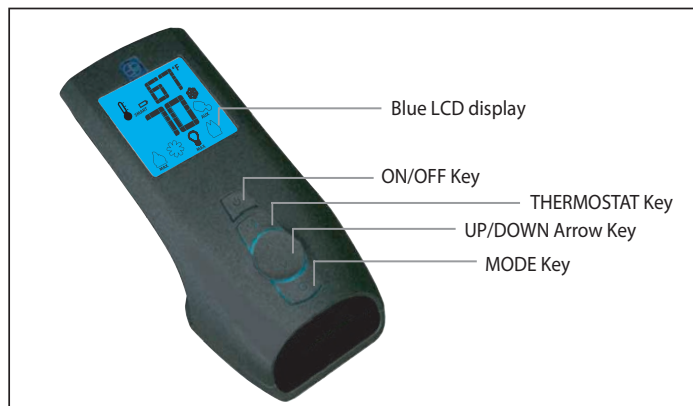
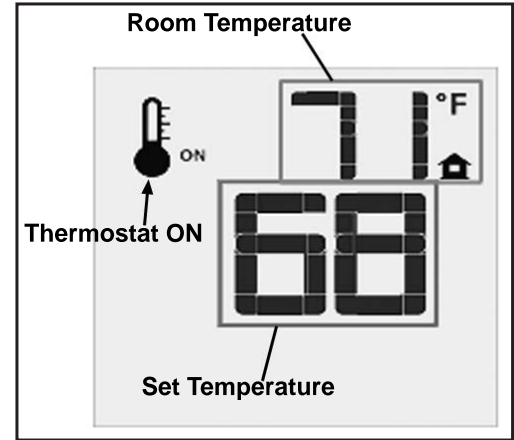
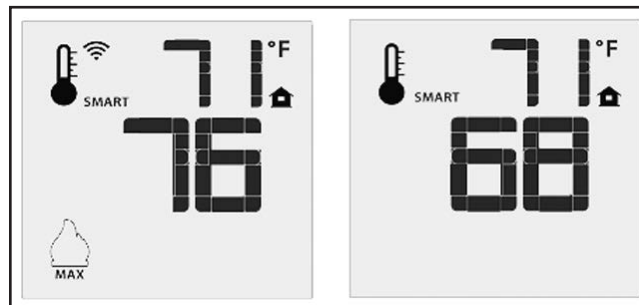
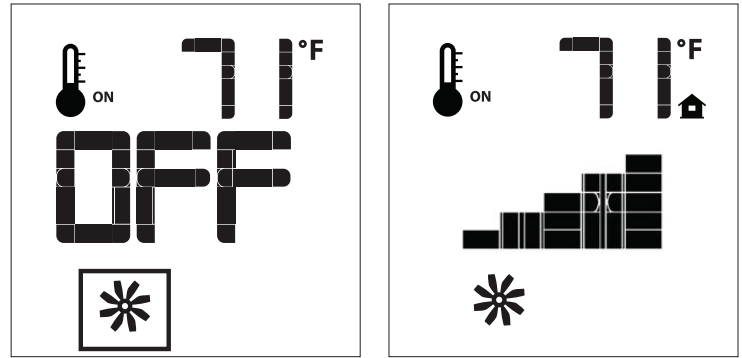

Figure 5: Proflame 2 Transmitter.
Figure 10: Remote Control Displays Set Temperature.
Figure 11: Remote Control's Smart Flame Function.
Figure 13: Fan Control
The Proflame 2 Transmitter is a black remote control with a blue backlit lcd display. It uses a streamline design with a simple button layout and informative lcd readout (Figure 6). The Transmitter is powered by three (3) AAA type batteries. A Mode Key is provided to Index between the features and a Thermostat Key is used to turn on/off or index through Thermostat functions (Figure 5 & 6)
Press the ON/OFF Key on the Transmitter. The Transmitter LCD display will only show the room temperature and Icon (see Figure 10). A single “beep” from the IFC confirms reception of the command and both the pilot light (if the unit is not set to continuous pilot) and main burner will turn off.
The Remote Control can operate as a room thermostat. The thermostat can be set to a desired temperature to control the comfort level in a room. To activate this function, press the Thermostat Key (see Figure 5). The LCD display on the Transmitter will change to show that the room thermostat is “ON” and the set temperature is now displayed (see Figure 10). To adjust the set temperature, press the Up or Down Arrow Keys until the desired set temperature is displayed on the LCD screen of the Transmitter.
The Smart Thermostat function adjusts the flame height in accordance to the difference between the set point temperature and the actual room temperatures. As the room temperature gets closer to the set point the Smart Function will modulate the flame down. To activate this function, press the Thermostat Key (Figure 5) until the word “SMART” appears to the right of the temperature bulb graphic (Figure 11). To adjust the set temperature, press the Up or Down Arrow Keys until the desired set temperature is displayed on the LCD screen of the Transmitter.
The Q2GI comes with a convection fan that can be controlled with the Transmitter. The fan speed can be adjusted through six (6) speeds. To control the fan press the MODE key (Figure 5) to index to the fan control icon (Figure 13). Use the UP/DOWN arrow keys to turn on, off, or adjust the fan speed (Figure 13). A single beep from the IFC will confirm the command has been received